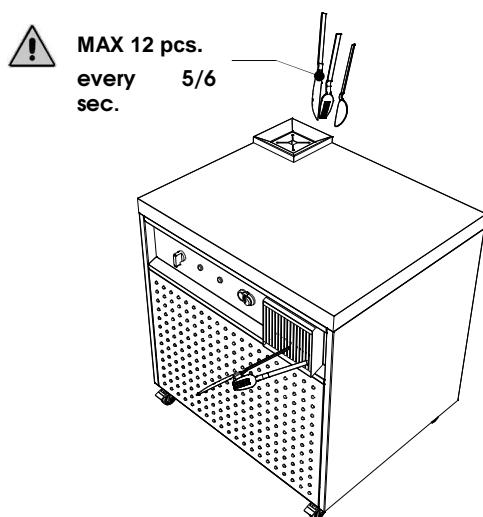
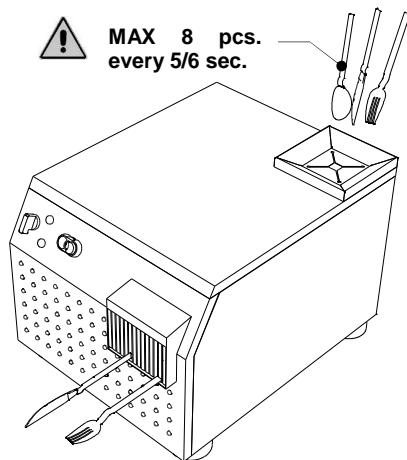

Figure 7 – Insertion of cutlery in the CUTLERY DRYER model JET
Figure 8 – Insertion of cutlery in the CUTLERY DRYER model MIG
3. Insert from the entrance opening(Figure 7 and Figure 8) the number of pieces of cutlery according to the model of the machine, at intervals of 5/6 seconds;